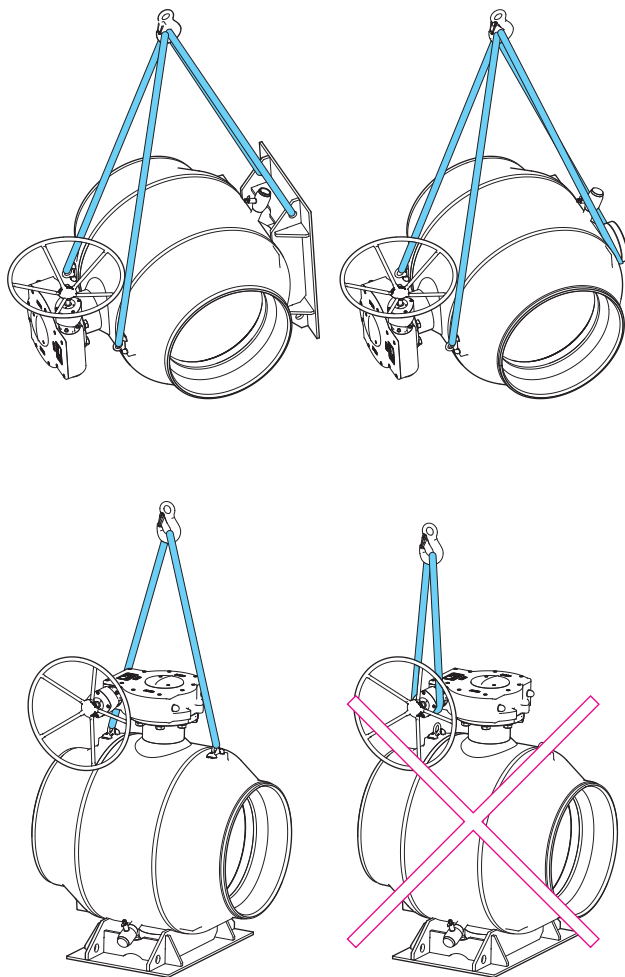

Figure 3. Lifting the valve \geq DN 600 full bore.
- The valve or valve assembly must not be lifted from the actuator. If the valve is equipped with lifting lugs, use them (see Figure 3). Dropping or incorrect lifting of the valve can result in personal injury or equipment damage.